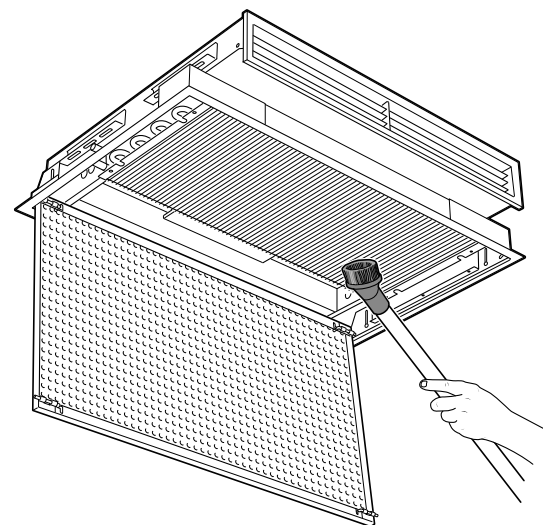
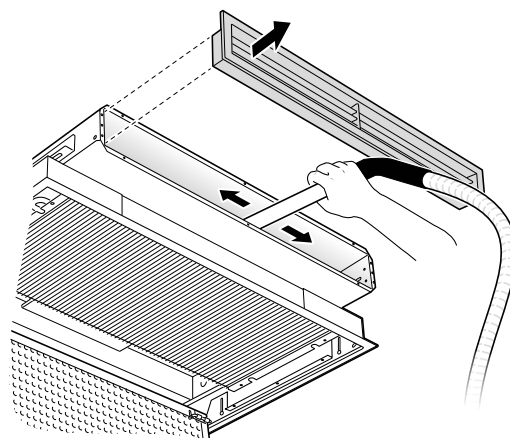

FIGURE 13
FIGURE 14
- 3) Vacuum the coil with a vacuum brush attachment every 5-10 years, or as needed and behind the front grille. (See **FIGURE 13** and **FIGURE 14**)